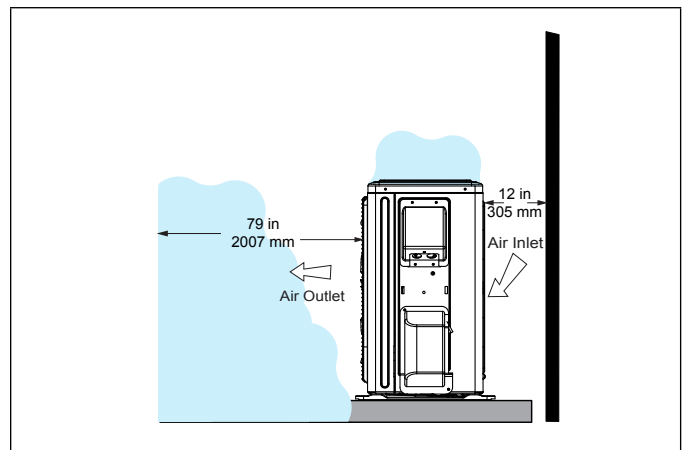

Figure 23. Outdoor Unit Air Flow Obstructed by Snow
- In heavy snow areas, do not place the unit where drifting will occur as illustrated in “Figure 23. Outdoor Unit Air Flow Obstructed by Snow”.